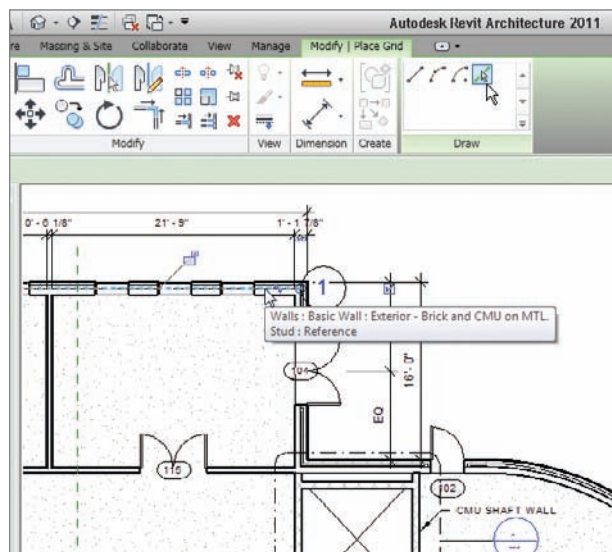

FIGURE 8.2 Your first column grid
4. On the Draw panel of the Modify | Place Grid tab, click the Pick Lines icon, as shown in Figure 8.2.
5. Pick the core centerline of the north wall, as shown in Figure 8.2.